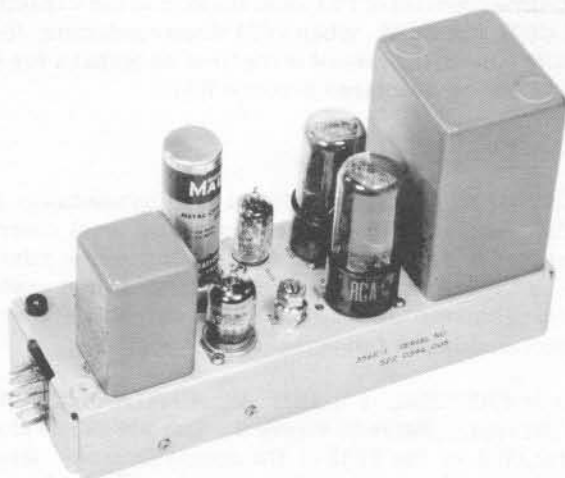

Figure 1. 356E-1 Limiter Amplifier,
1. General Description. (See figure 1.)